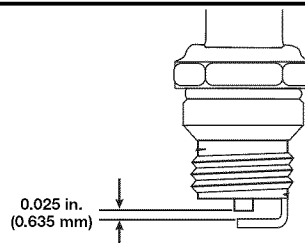

Fig. 32
4. Replace cracked, fouled or dirty spark plug. Set the air gap at 0.025 in. (0.635 mm.) using a feeler gauge (Fig. 32).